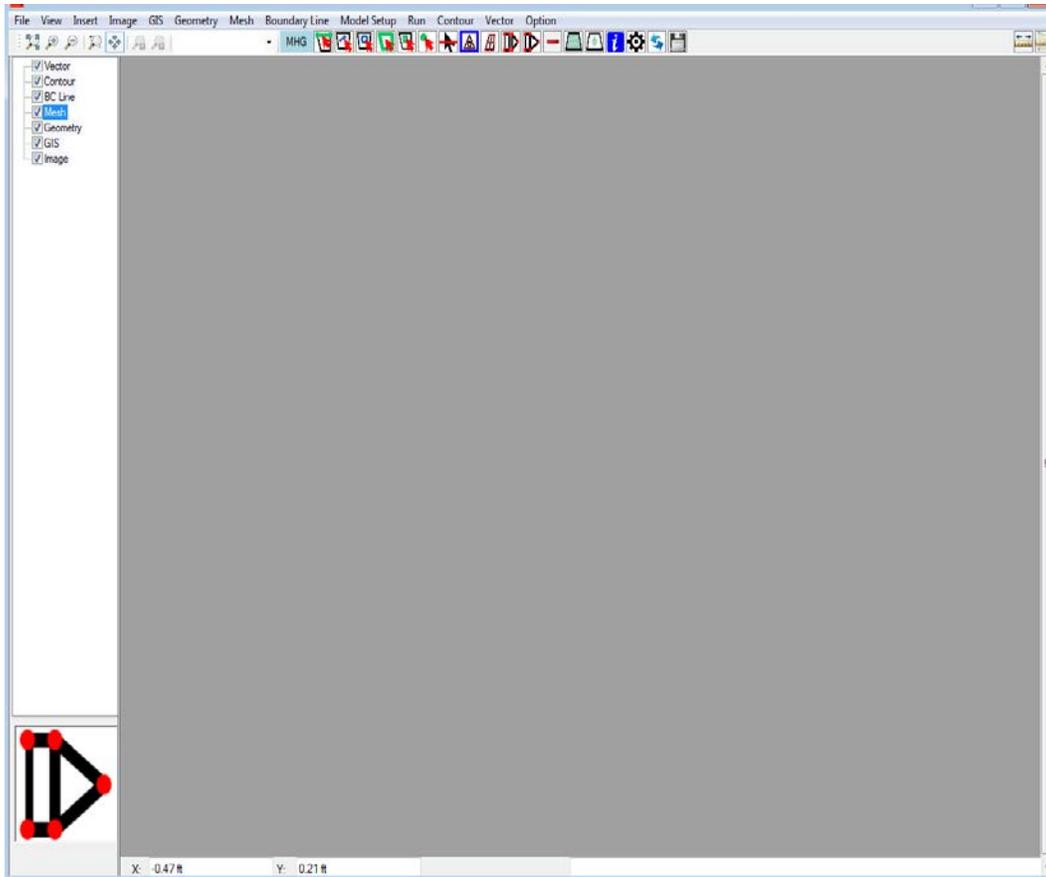

Figure 5-2. SRH-Mesh main page.
Step 2: SRH-Mesh main page will show up after waiting for 10 seconds. You can also left-click in the start form to switch to SRH-Mesh main page to get the main page to pop up immediately (Figure 5-2).